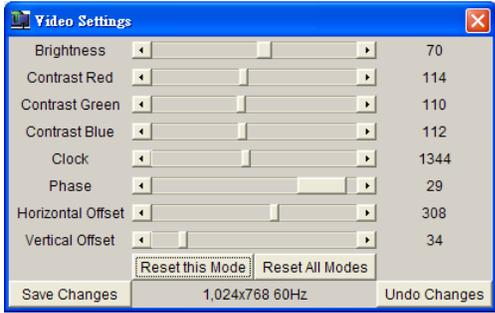

Figure 10-8 Video Settings
- Video Settings: This feature allows you to configure the advanced video settings. Please refer to Figure 10-8.